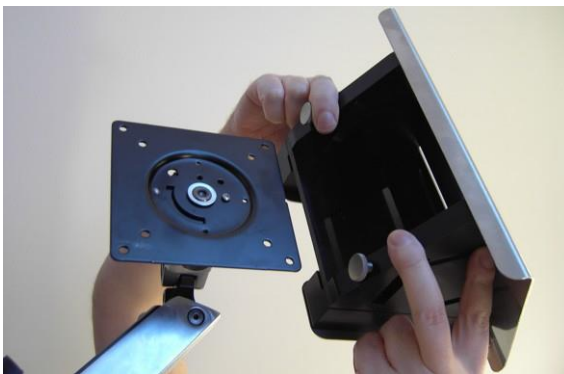

Figure 3-9. Aligning the Handpiece tray with its Base on the Articulated Arm
1. Align the handpiece tray with its base on the articulated arm, as shown in Figure 3-9.
2. Insert the handpiece tray onto its base, and push it all the way, as shown in Figure 3-9.